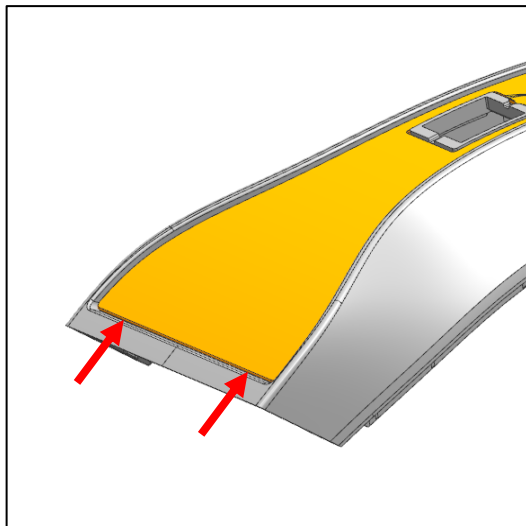
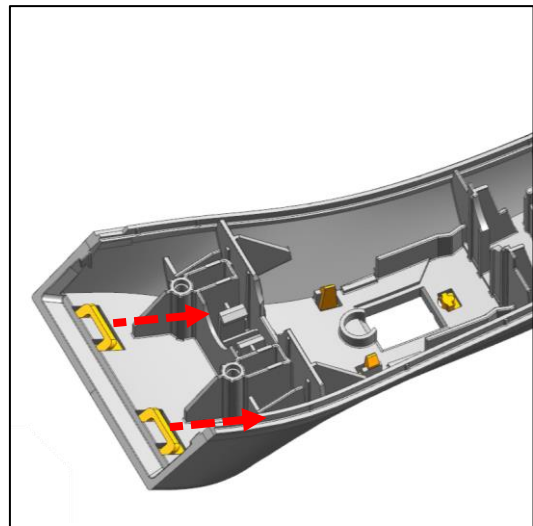

Fig. 15
Fig. 16
- b) Press the front edge of the cover backwards. This unlocks the front eyelets of the cover (Fig. 15, Fig. 16).